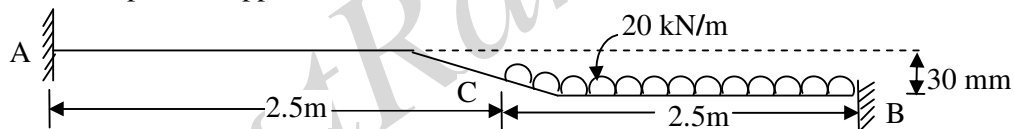

Figure 2
b) Evaluate the fixed –end moments in the beam shown in Figure 2.
b) Determine the fixed-end moments in the beam shown in figure 2.
b) Determine the fixed end moments in the beam shown in Figure 2. Support **B** is sinking by 30 mm with respect to support **A**.